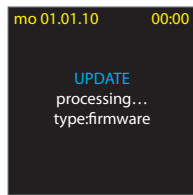

fig. 3
6. Upon pressing the button „START“ the software starts the transmission (figure 3).